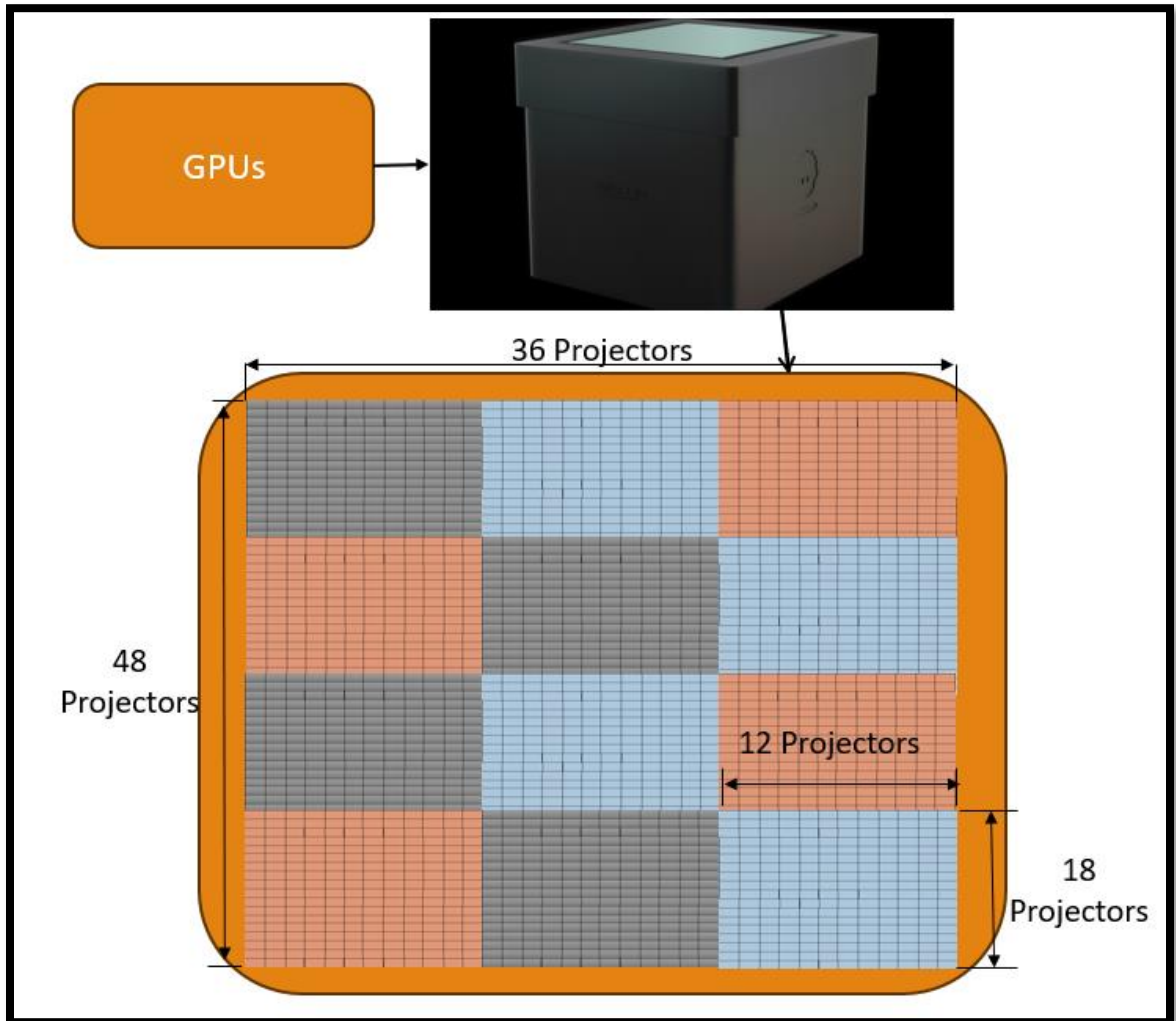

Figure 1: Diagram of the scale of NOVAC, Avalon Holographics' biggest 3D display. Reproduced from [4].
To illustrate one such extreme performance application, the example of Avalon Holographics' latest display as of writing, NOVAC, will be used (see **Figure 1**) [3]. NOVAC can display high-definition (HD) holograms to the naked eye [3]. Due to the nature of the over-the-screen lens that creates the hologram, the underlying 2D (two-dimensional) resolution must be substantially higher than HD to achieve HD 3D (three-dimensional) resolution [4]. For NOVAC, the 2D resolution is in the range of 69120 by 77760 pixels, around 2 million times higher than most TVs and computer monitors today